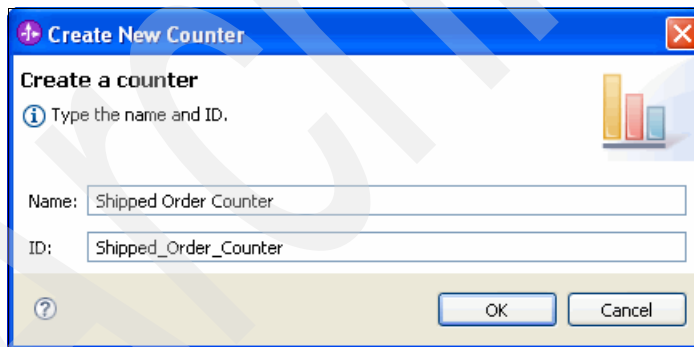

Figure 8-75 Setting the counter name
21. In the Create New Counter window (Figure 8-75), set Name to Shipped Order Counter and click **OK**.